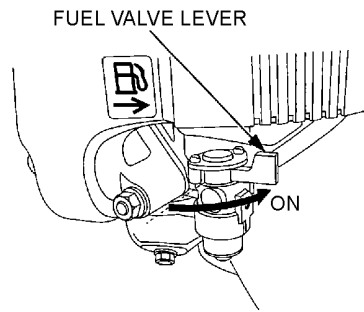

Figure 9. Engine Fuel Valve Lever (ON)
1. Place the engine fuel valve lever (See Figure 9) to the **ON** position.
1. Make sure that the engine fuel valve lever is in the **ON** position (Figure 9).
2. Make sure that the engine fuel valve lever is in the **ON** position (Figure 9).